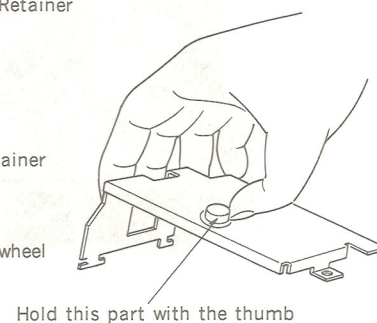

Fig. 18
2. Hold the thrust retainer with the thumb as shown in fig. 18.